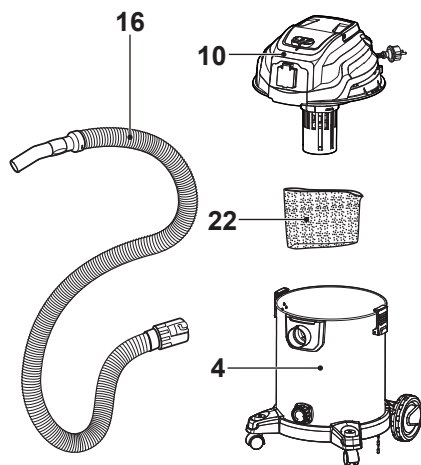

Fig. 6, Wet vacuuming
- with foam sleeve (22) for wet vacuuming (Fig. 6).